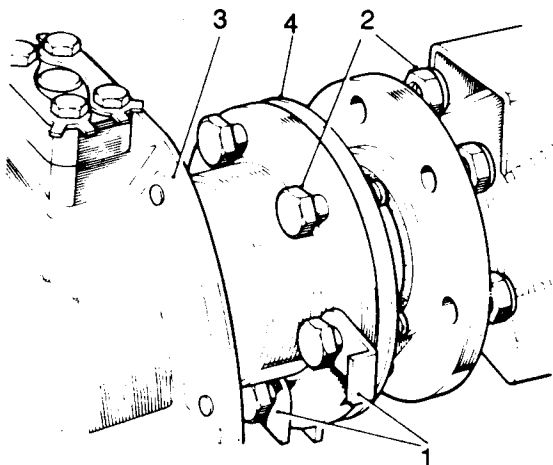

Fig J1.36
- (4) Refer to Fig J1.36. Note the fitted position of the steering lock stop plate (1) and on the RH side only, the jack location stop plate.
- (5) Remove the fixings (2) swivel pin housing to axle case.
- (6) Withdraw the swivel pin housing (3).
- (7) Withdraw the joint washer (4).